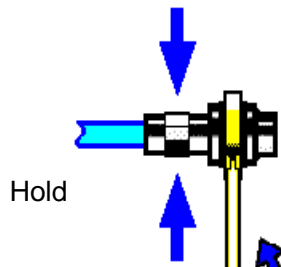

Fig. 3.8 Diagram of Wrench Operation
Step 3. As shown in Fig. 3.8, complete the final connection by tightening with the torque wrench. Note that the torque wrench must not be beyond the initial break point. Use the auxiliary wrench to prevent the connector s from rotation.